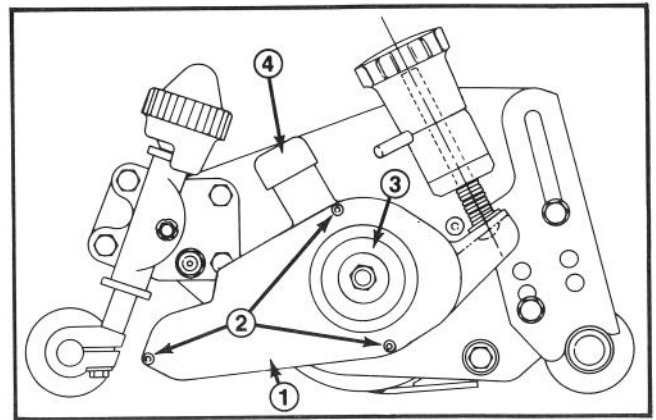
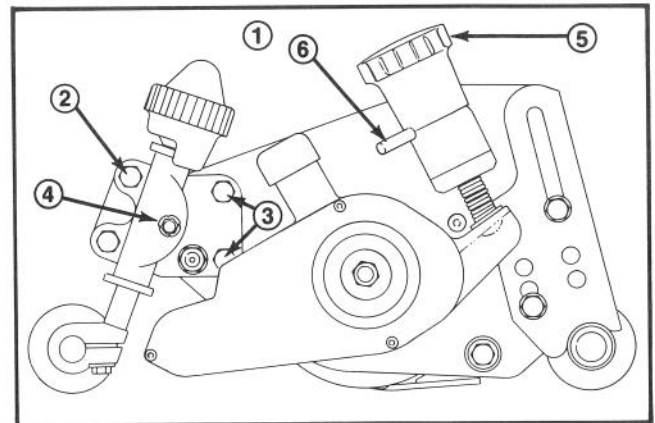
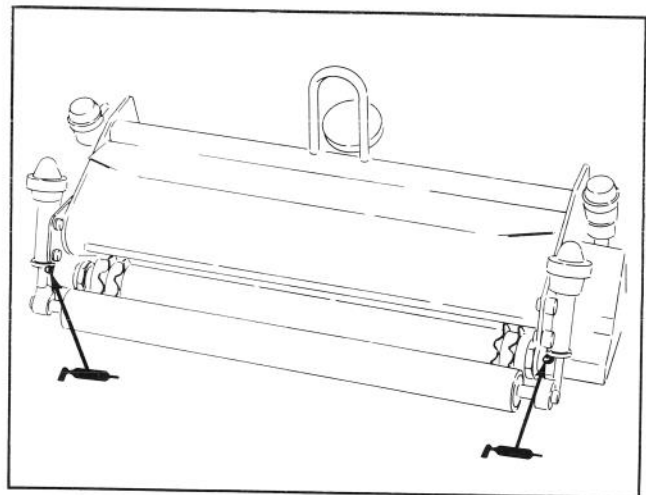

Figure 16
Figure 17
Figure 20
11. Reinstall the left assembly housing cover (that was removed in step 7A) using the three socket head screws and lock washers (Fig. 16).
12. Reinstall the clutch engagement knob to the clutch assembly with the two allen head set screws (Fig. 16).
13. With a pliers remove the cotter pins from the right and left grooming reel position adjustment carriage bolts (Fig. 17). Make sure that the washers are in place at the ends of the carriage bolts and in particular, make sure that the right square holded washer is properly seated on the square end of the carriage bolt.
17. Use the Quick Up Levers (both sides) to raise the grooming reel into the transport position (Fig. 17). Hold the clutch snubber down and disengage the clutch by turning the clutch knob clockwise (Fig. 16). Lubricate the grooming reel shaft bearings with a hand pump grease gun (2 or 3 pumps maximum). Do not over grease as excess grease may cause seal failure (Fig. 20).
3. Hold the clutch snubber down and disengage the clutch by turning the clutch knob clockwise (Fig. 16). Use the Quick Up Levers (both sides) to lower the grooming reel into the grooming position (Fig. 17).
the grooming reel into its transport (raised) position. To raise the grooming reel grab the right and left quick up levers and turn them so that they face to the rear (Fig. 17). To lower the grooming reel turn the quick up levers forward and engage the clutch.
Lubricate the grooming reel shaft bearings with a hand pump or grease gun (2 or 3 pumps maximum) (Fig. 20). Do not over grease as excess grease may cause seal failure.
5. Lubricate the grooming reel shaft bearings with a hand pump grease gun (2 or 3 pumps maximum) (Fig. 20). Do not over grease as excess grease may cause seal failure.